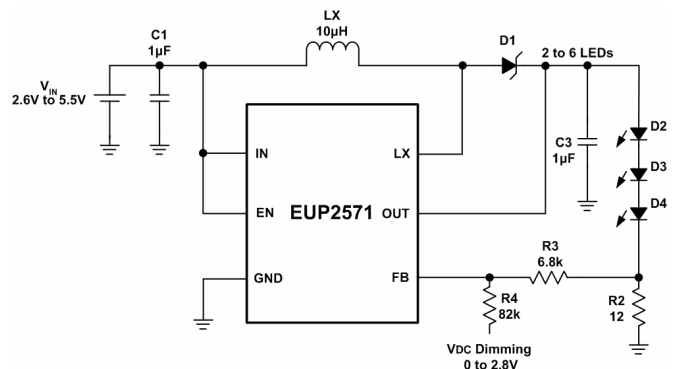

Figure 5. Dimming Control Using a DC Voltage
Using a variable DC voltage to adjust the brightness is a popular method in some applications. The dimming control using a DC voltage circuit is shown in Figure 5. According to the Superposition Theorem, as the DC voltage increases, the voltage contributed to V_{FB} increases and the voltage drop on R2 decreases, i.e. the LED current decreases. For example, if the V_{DC} range is from 0V to 2.8V, the selection of resistors in Figure 5 sets dimming control of LED current from 20mA to 0mA.
Figure 9 is another application of EUP2571 for backlight and keypad. Setting the divider-resistors (R1 & R2) is to get a constant output voltage that depends on the forward voltage and the numbers of series-LEDs. It can turn on backlight of main panel and keypad at the same time. Applying different duty cycle of PWM signal above 22kHz to the backlight's switch can also control the brightness of main panel's backlight. The keypad's backlight will keep the same brightness during the dimming control of main panel. Otherwise the brightness of keypad's s backlight can also change during the dimming control of main panel by using the application circuit as figure 5. The following formula (5)(6) can determine the resistors of Figure 9.